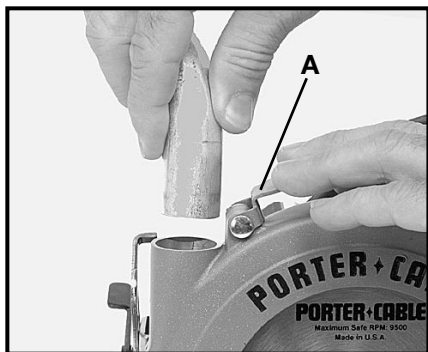

Fig. 11
2. Swing open exhaust cover (A), Fig. 11, and clean out any sawdust that may have accumulated.